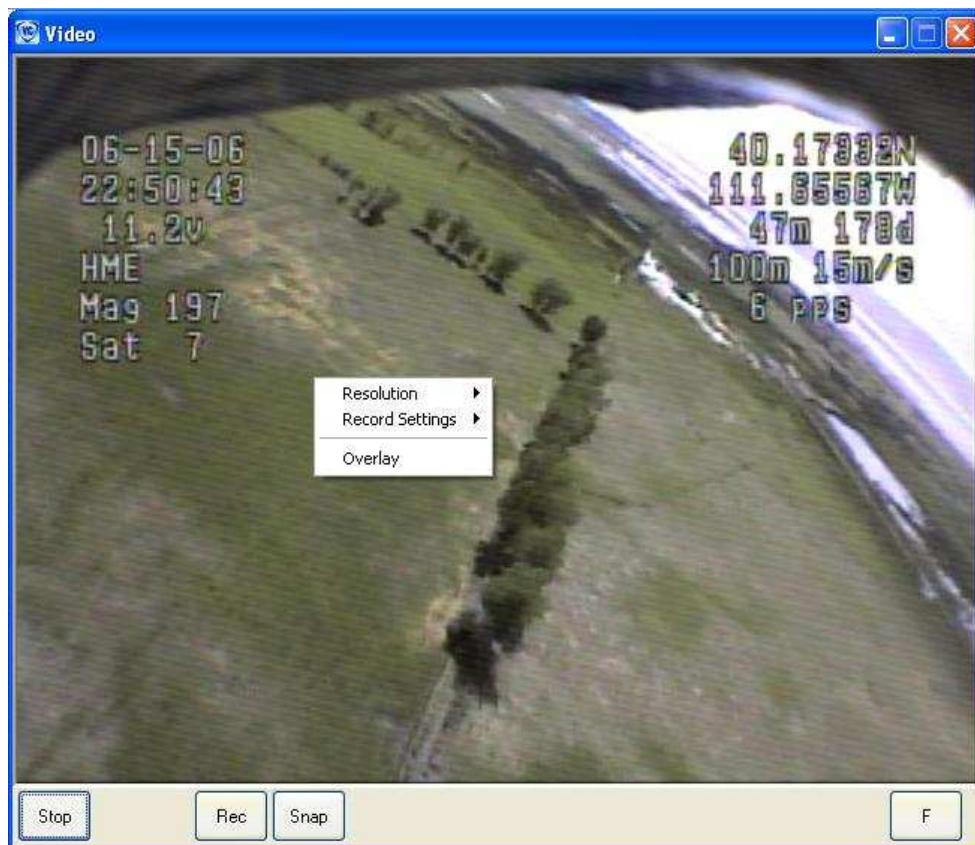
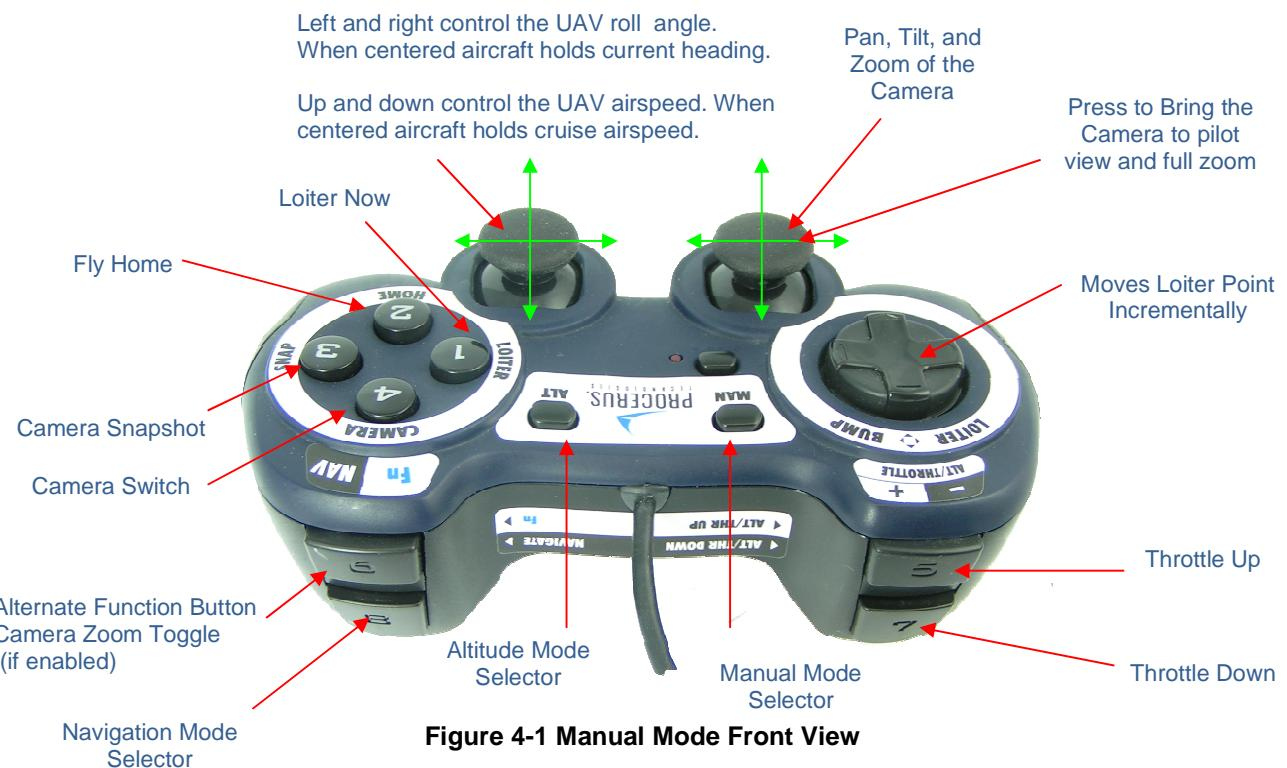

Figure 3-14 Video Window with VCE-Pro frame grabber
Figure 4-1 Manual Mode Front View
To display video in the Video window (F8), the user must select the correct video capture device from the Devices list menu. Next the user must click the Preview button to start real-time video playing in the Video window. To capture a snapshot from the current video stream, the operator can simply click the Snap button on the Video Window or on the Gamepad (see Figure 3-14 and Figure 4-1).
The Virtual Cockpit currently only supports recording with the PCMCIA video capture card “VCE-PRO” provided by Imperx. This capture card provides clear video with less than 50 millisecond latency. Figure 3-14 shows the Video Window used when a VCE-Pro card is inserted before starting the Virtual Cockpit. Figure 3-15 shows the Video Window when using a different capture device that is DirectShow compliant.
The user is given complete control of the throttle using the gamepad. This mode is useful for manually landing the aircraft or maneuvering in small or obstructed flying fields. Figure 4-1 shows the gamepad controls during Manual Mode operation.
2. Switch to the side look camera using either the **A/B** button on the Video Window or press the **Video Switch** button on the gamepad (Figure 4-1 and